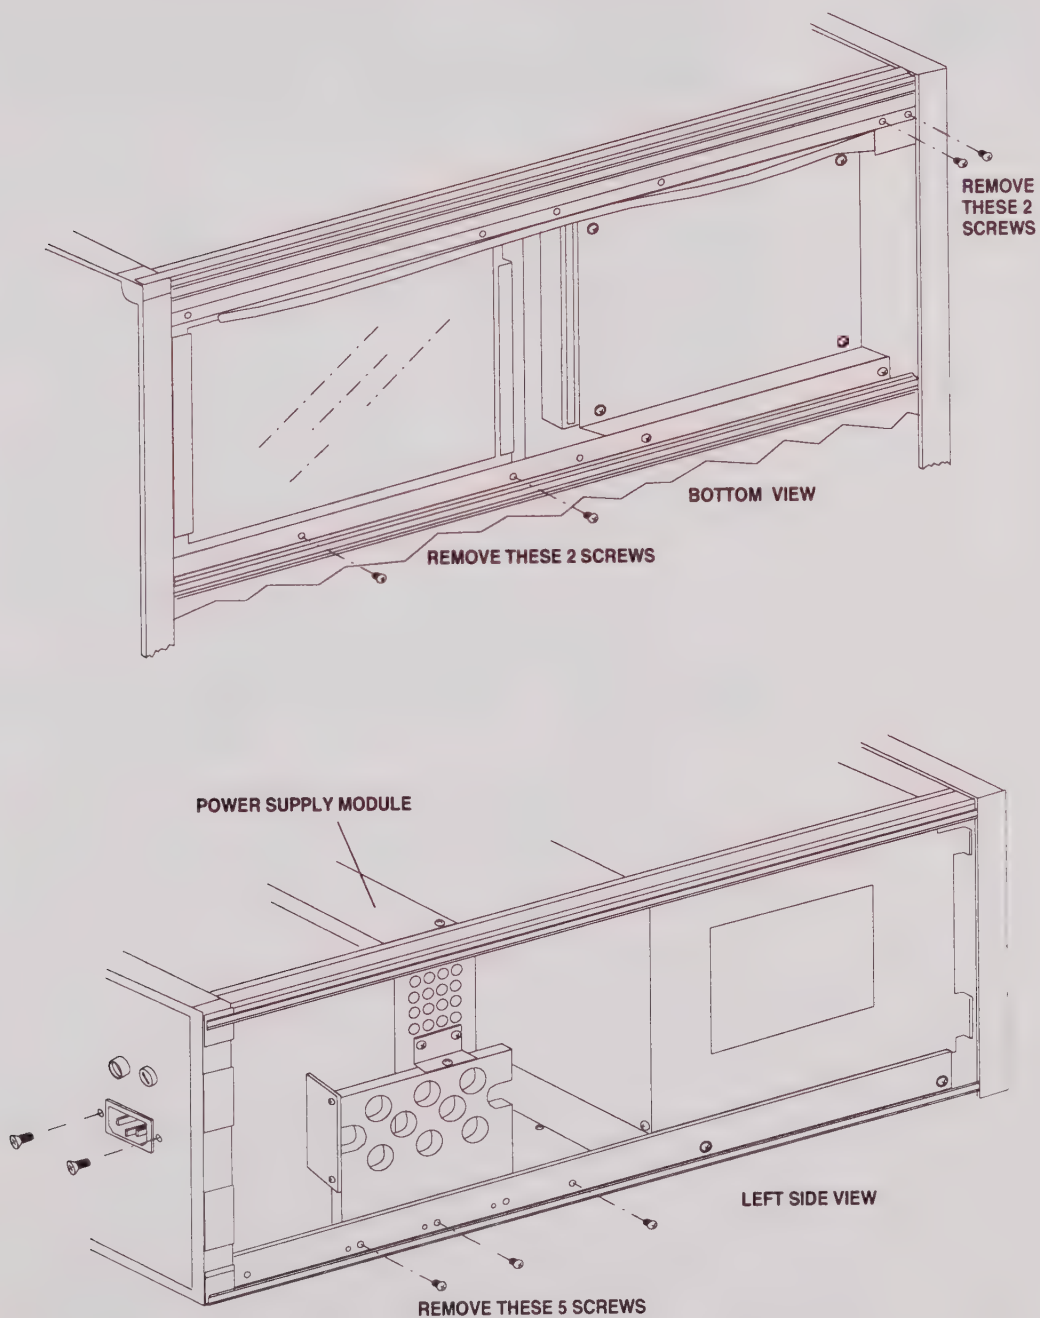

Figure 7-6. Removing the Power Supply Assembly
- Step 2.** Remove the two screws that fasten the Power On/Off switch mounting bracket to the chassis (Figure 7-6, top).